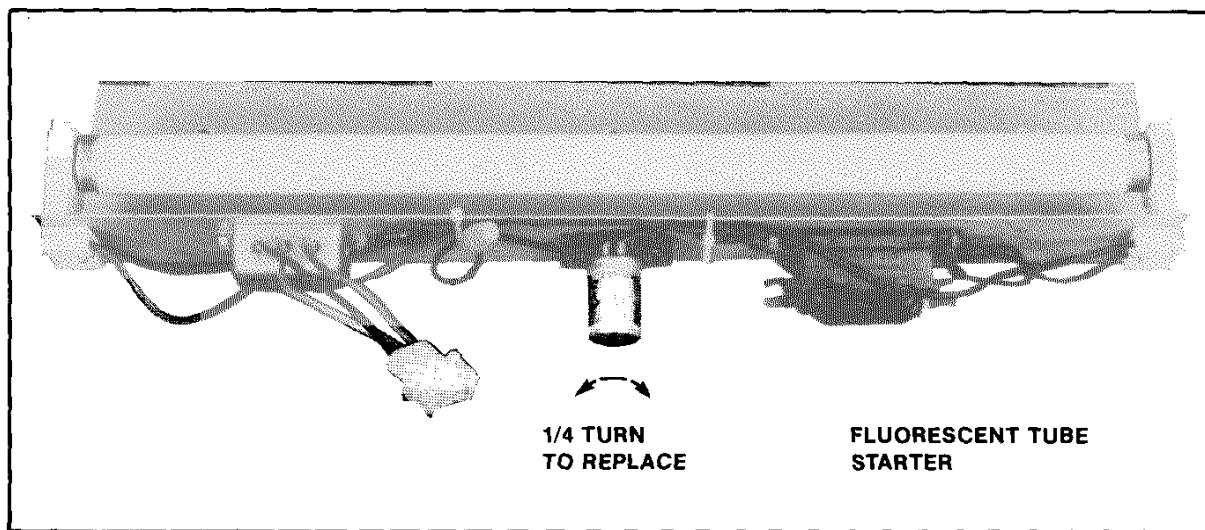

Figure 3-7 Replacing Flourescent Tube Starter
- Replacing the fluorescent light tube starter. See Figure 3-7.
- Replacing the black light tube starter. See Figure 3-7.